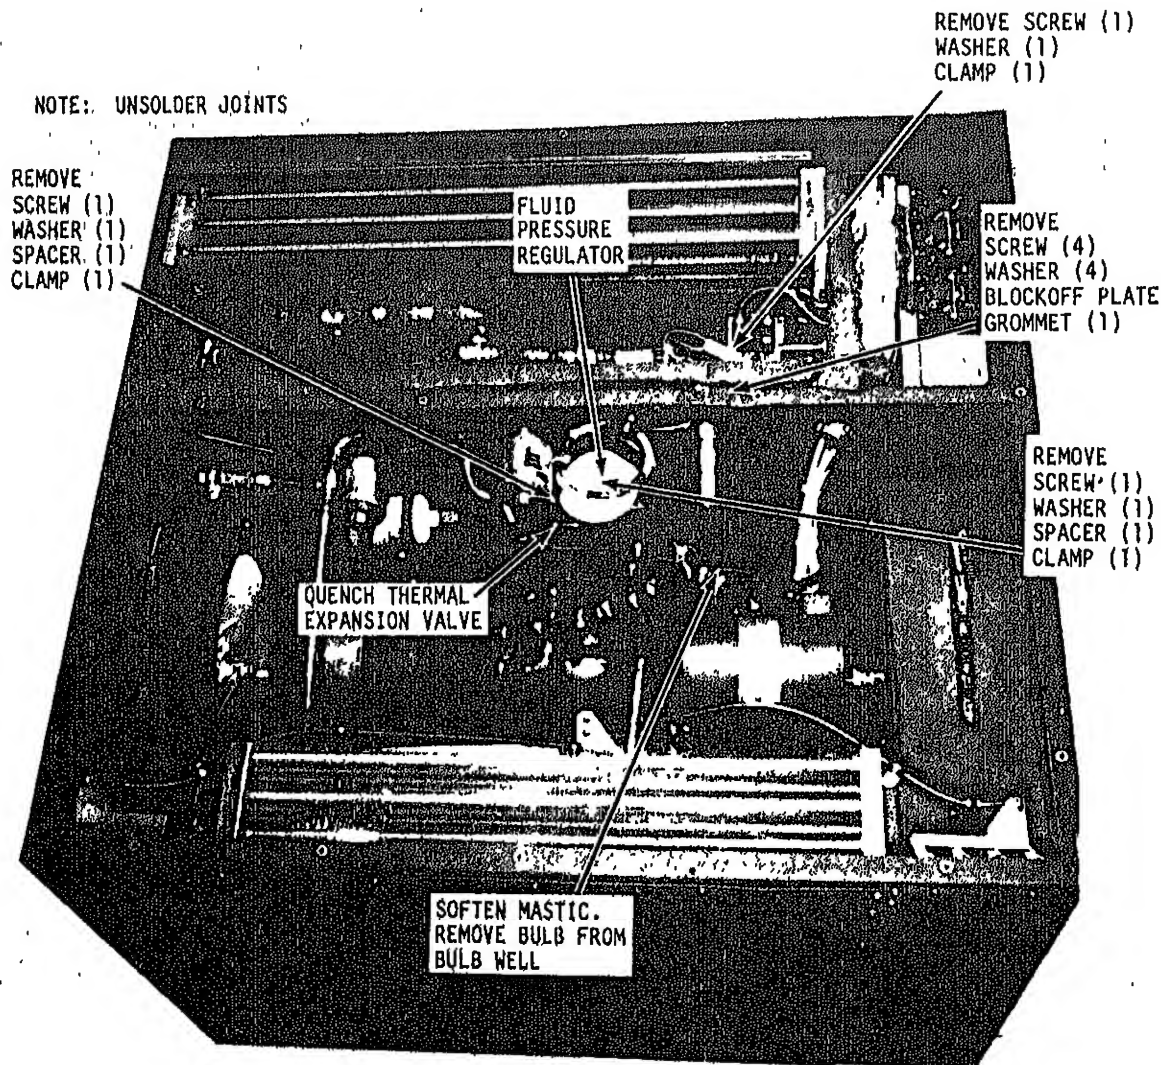

Figure 5-11. Quench thermal expansion valve and fluid pressure regulator, removal and installation
(3) Refer to figure 5-11. Soften the mastic in the bulb well and remove the expansion valve bulb. Take care to avoid damaging the capillary tube.
(4) Remove the expansion valve clamp.
(5) Unsolder the expansion valve from the refrigerant system tubing.
(1) Refer to figure 5-11 and mount the expansion valve against the compartment wall using the mounting clamp.
(3) Refer to figure 5-11 and unclamp the regulator valve sensing bulb.
(4) Remove the regulator valve mounting clamp.
(5) Unsolder the regulator valve from the refrigerant system tubing. Remove by drawing the bulb through the compartment wall.
(1) Refer to figure 5-11 and mount the fluid pressure regulator against the compartment wall using the mounting clamp.